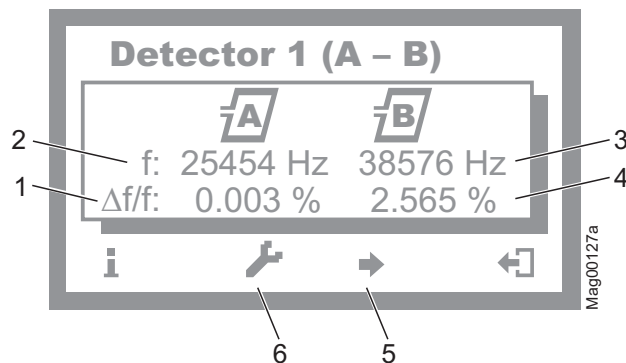

Fig. 53: Example "View – Menu Detector 1 (A-B)"
3. Press the left control button repeatedly, until the menu "Detector 1 (A-B)" is displayed. → See page 142, Fig. 53.